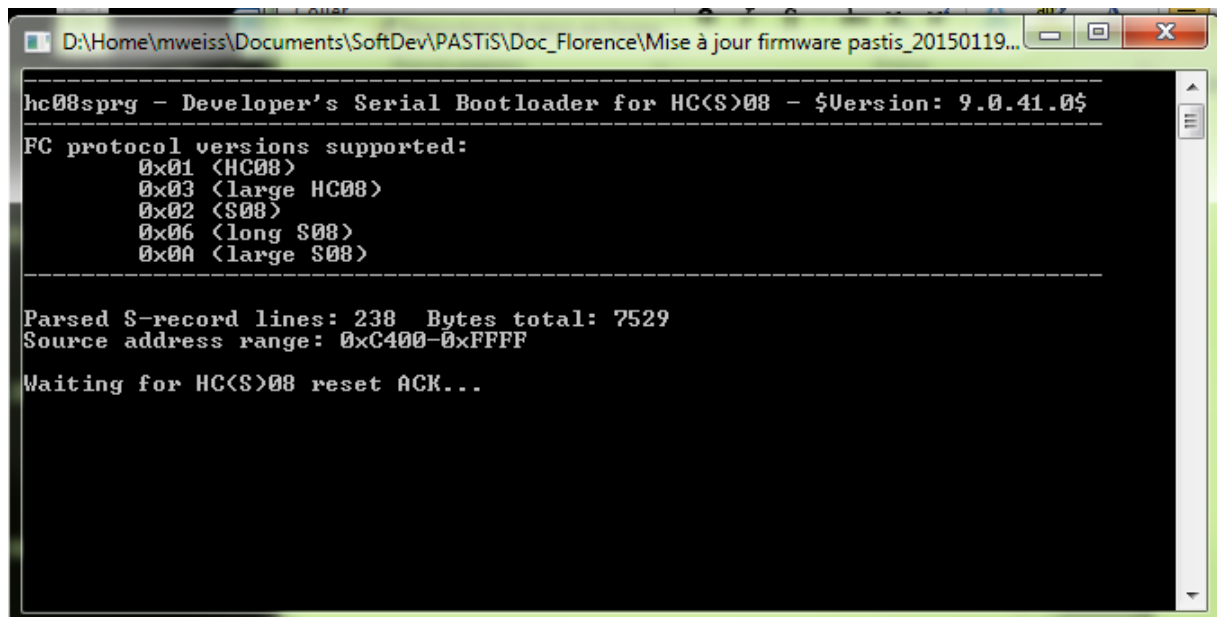

Figure 16. PASTiS Firmware updating. Connecting the system to the computer
5. A DOS-command window is opens and indicates that the system is waiting (Figure 16)